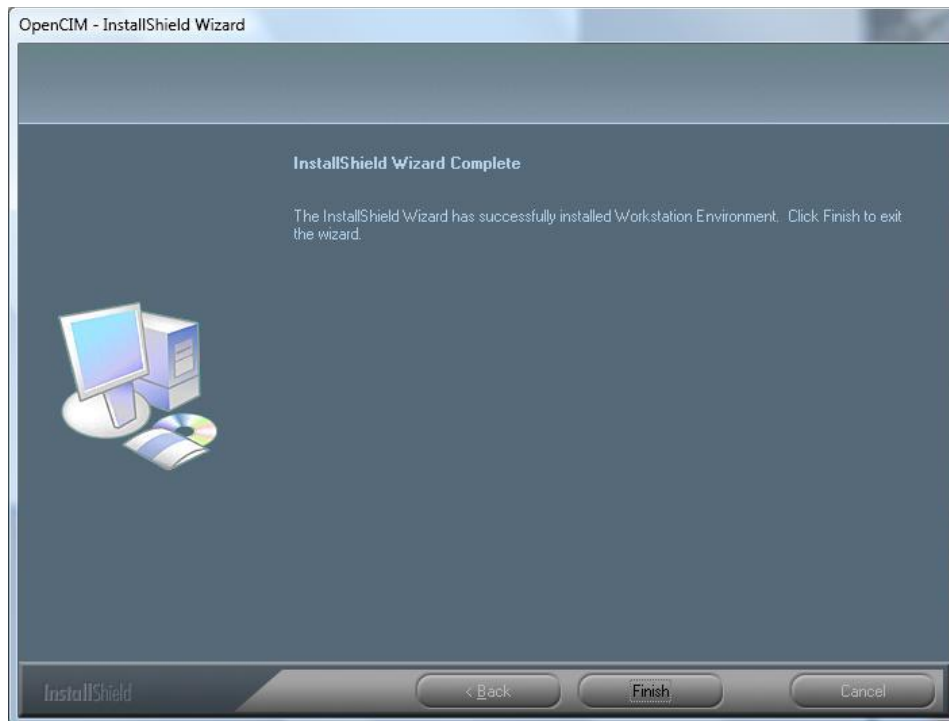

Figure 17: Installation Complete Window
11. The Installation Complete window is displayed when installation has been successfully completed as shown in Figure 17.